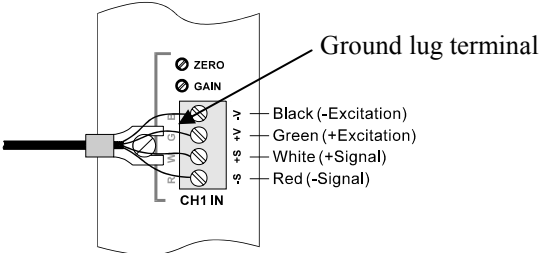

Figure 2c
- 4). Attach the wire lug to a ground terminal on the front of the TTLM. Use a 6-32 x 1/4' screw for the grounding lug connection. If you have a Toledo Transducers sensor, attach the signal wires to the channel connector following the color codes in Figure 2c.